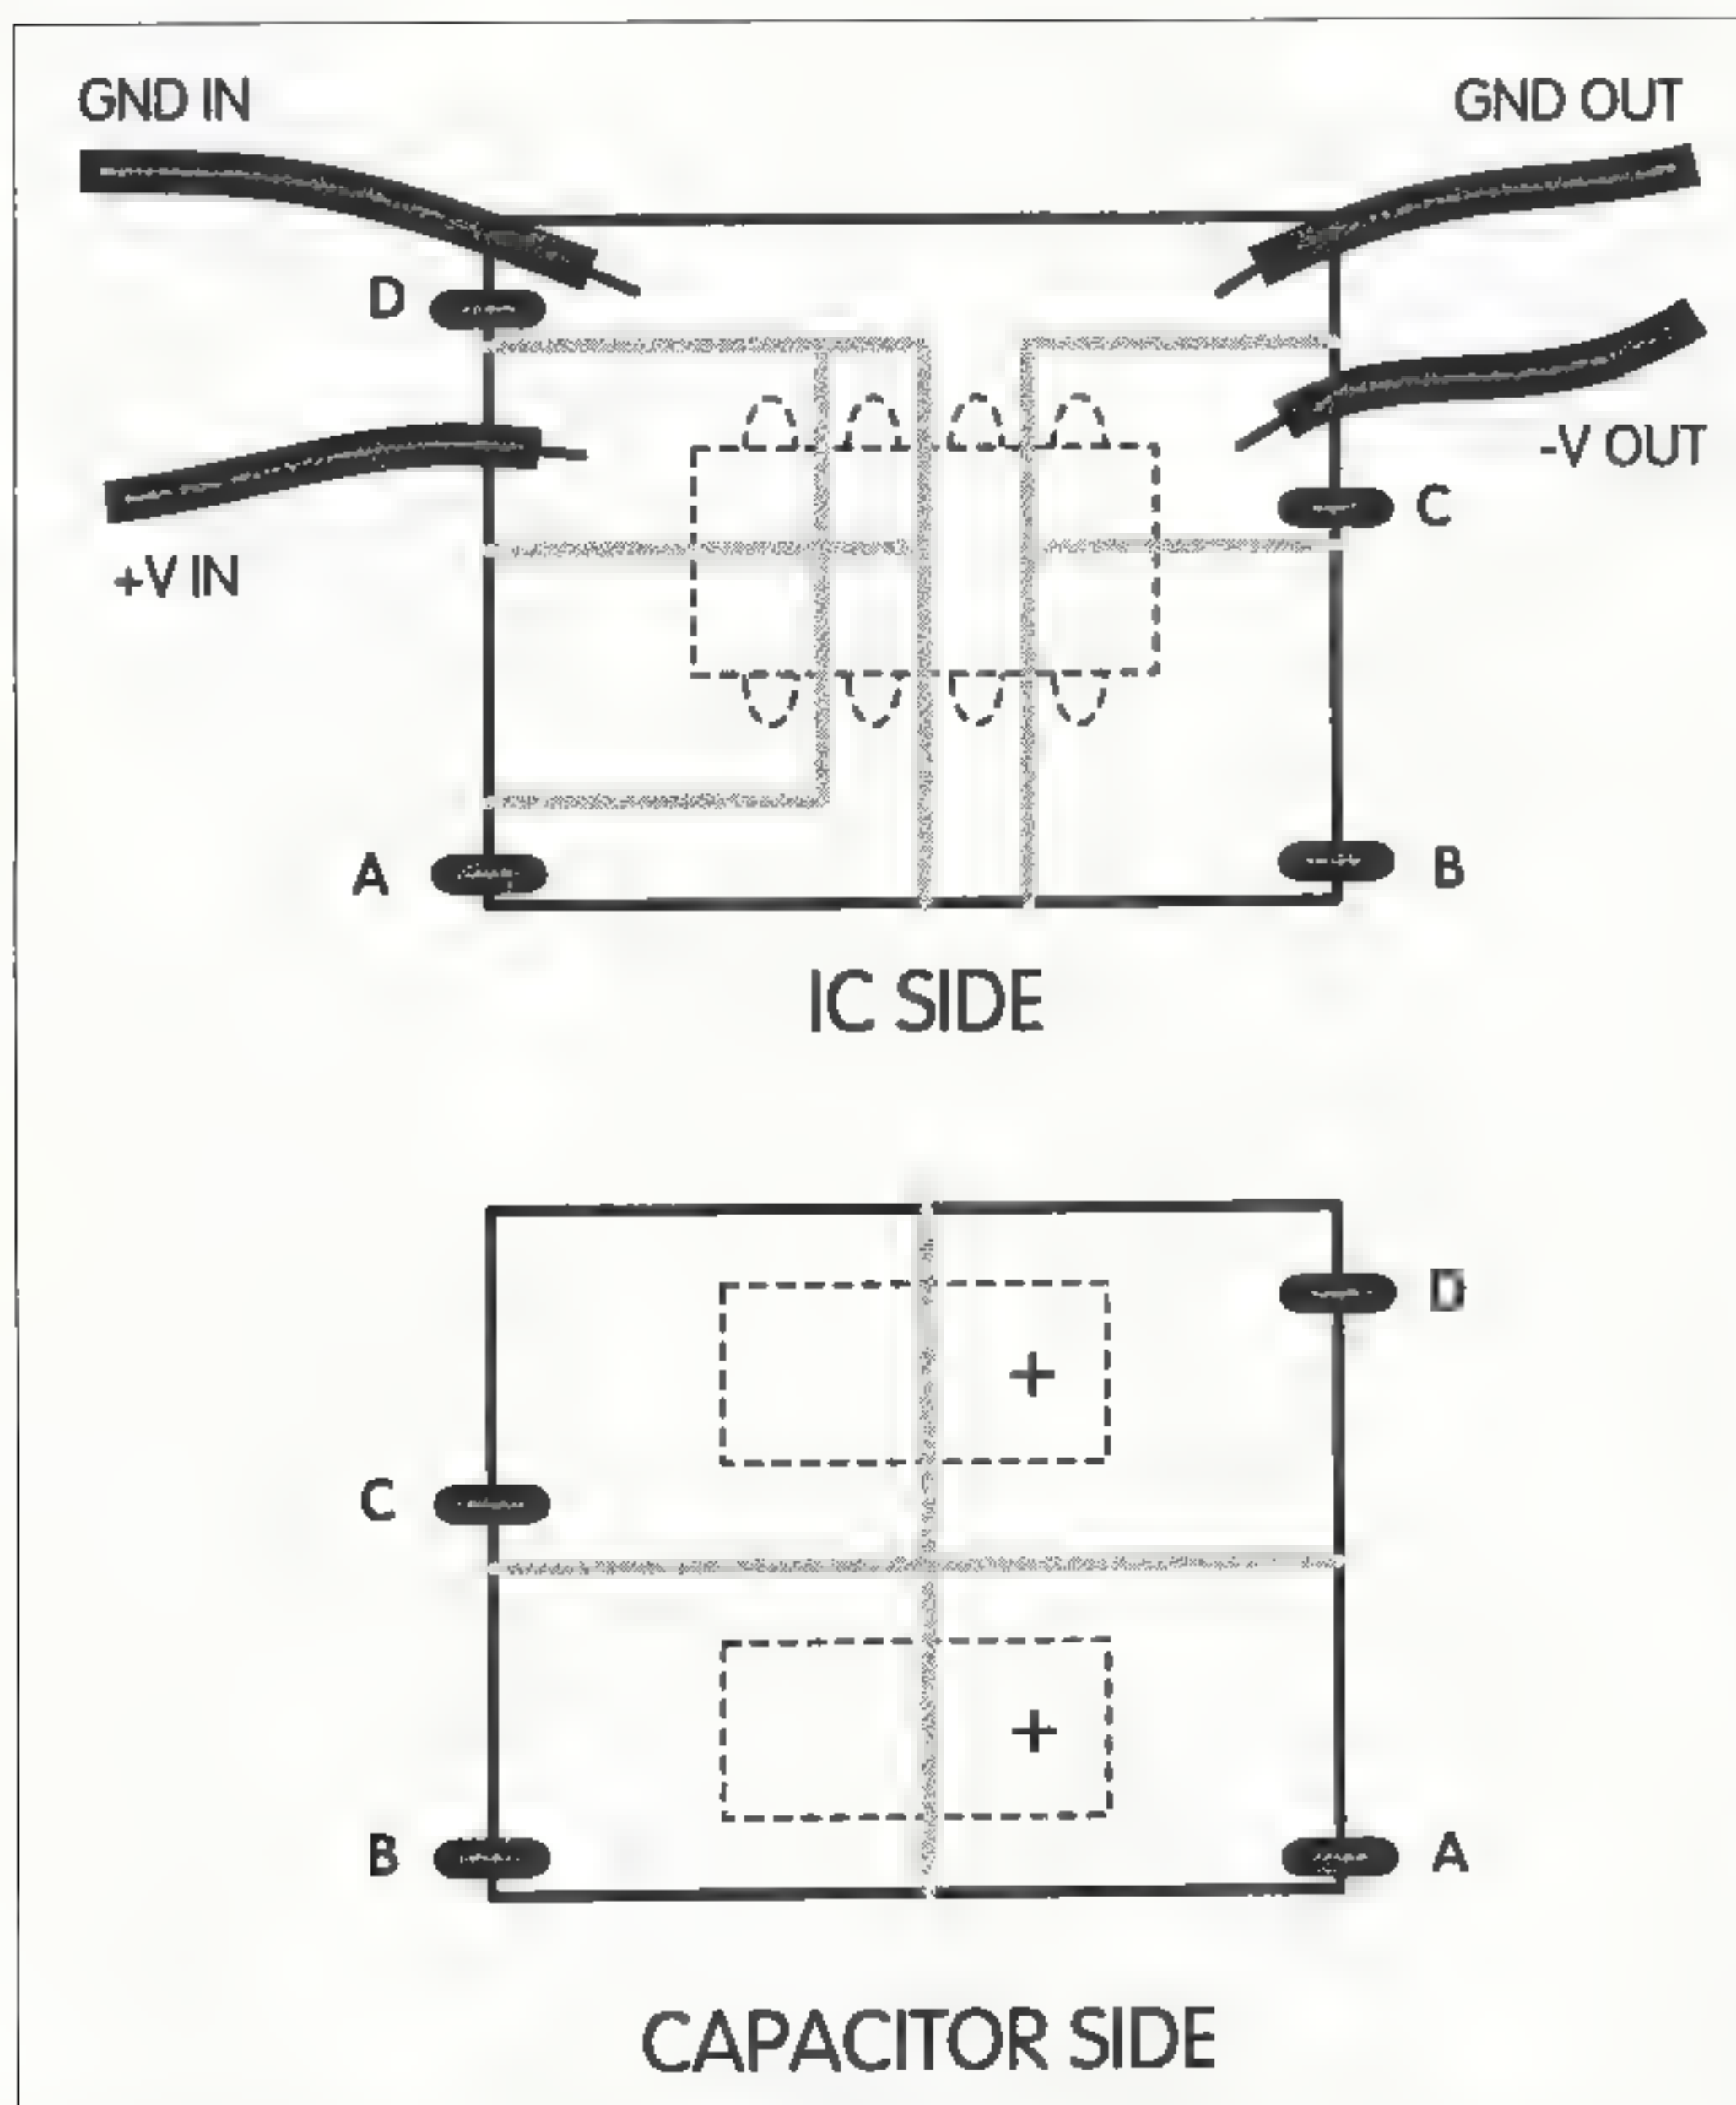

Fig. 6. Layout used for LM2662. Gray lines indicate areas with copper foil removed. A-D are wire jumpers to opposite side of board.
**Fig. 6** shows my final layout. I chose to use double-sided board, both because it would make the project smaller and because it was easier to fabricate the circuit this way. A consideration in the layout was that the spots where wires were attached needed to be relatively quite wide. To connect the capacitors to the pins on the IC, I could have drilled small holes through the board, but I felt it was easier to run the traces such that I could wrap small jumper wires around the edge of the board (see **Fig. 6**, a, b, c, and d).